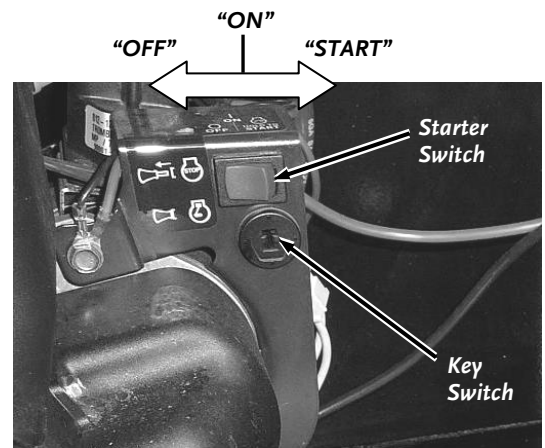

Figure 21
4. Insert the Key and press and hold the Starter Switch to the “START” position until the engine starts, then release it (**Figure 21**). The Starter Switch will snap back to the “ON” position and the engine will continue to run.